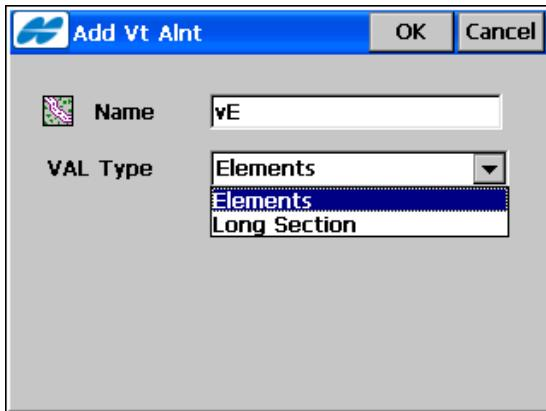

Figure 7-13. Add Vertical Alignment
- **Add** – opens the **Add Vt Alnt** screen (Figure 7-13 on page 7-15) to add a new vertical alignment.
Tap the **Add** button on the *Vertical Alignment* screen (Figure 7-13). The **Add Vt Alnt** screen selects a method of creating this alignment and sets the name of the new vertical alignment.